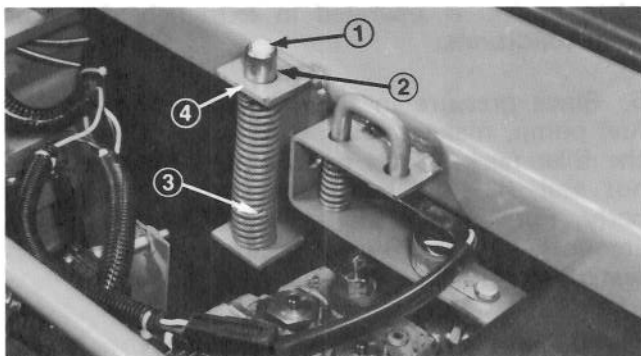

Figure 4
6. Insert plastic pin into end of seat pin (Fig. 4).
7. Secure spring and pin to seat support bracket by compressing spring and inserting roll pin through pin (Fig. 4).